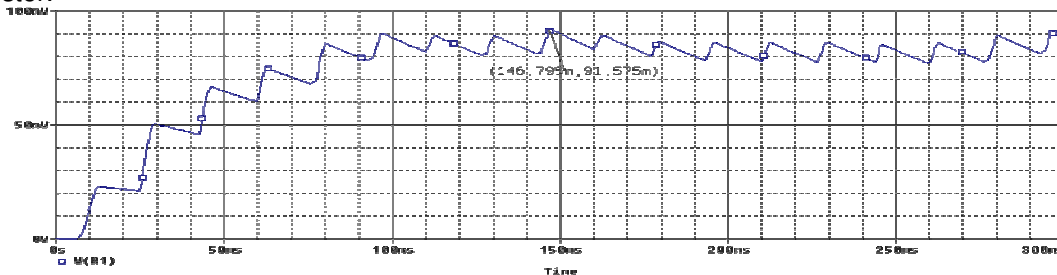

Fig 1.6 – Output Power dissipated by load resistor
-Figure 1.6 shows the power dissipated by the load resistor (using a W probe), is roughly 100mWatts. You must choose an appropriate size load resistor for your voltage doubler, to dissipate no more than 100mW of power. Use $P=IV$ and $V=IR$ to determine the size of your load resistor.